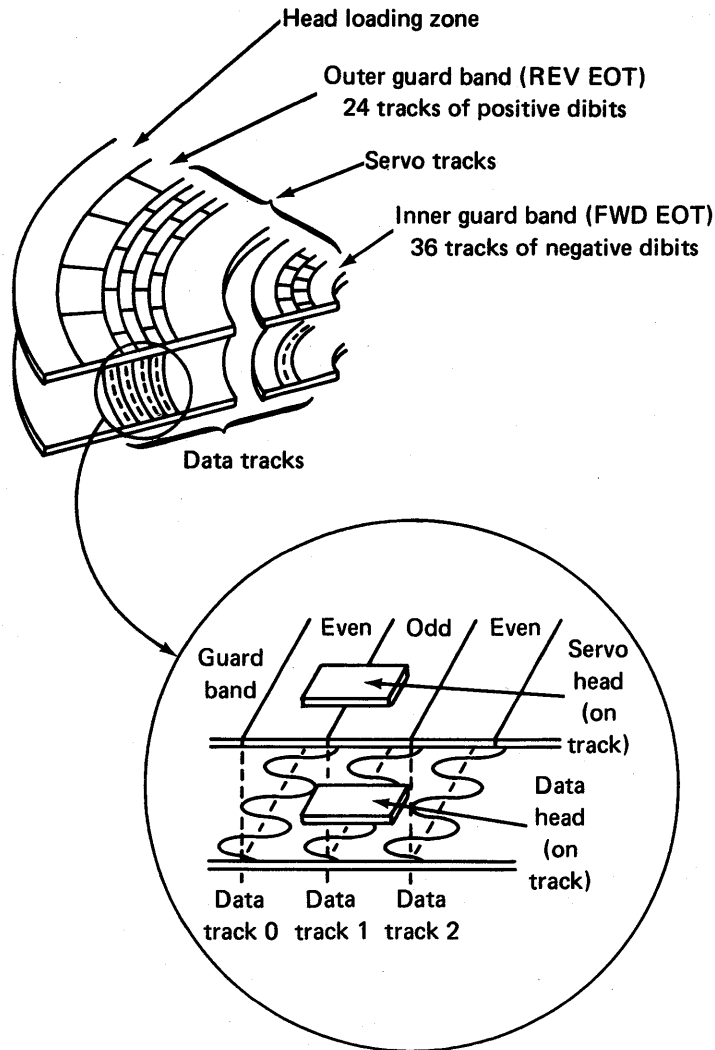

Figure 51. Servo and data surfaces compared
19. The information within the circle in figure 51 shows the relationship between the servo tracks and the data tracks on the data recording surfaces. The servo head is shown centered between the first even dibit track and the next odd dibit track, and since all the heads move together, all of the data heads are in the exact same spot on their respective surfaces. This position of the servo head is track number 1, while tracks 0 and 2 are shown only for reference. With the servo head precisely between dibit tracks, the resulting output signal is balanced.